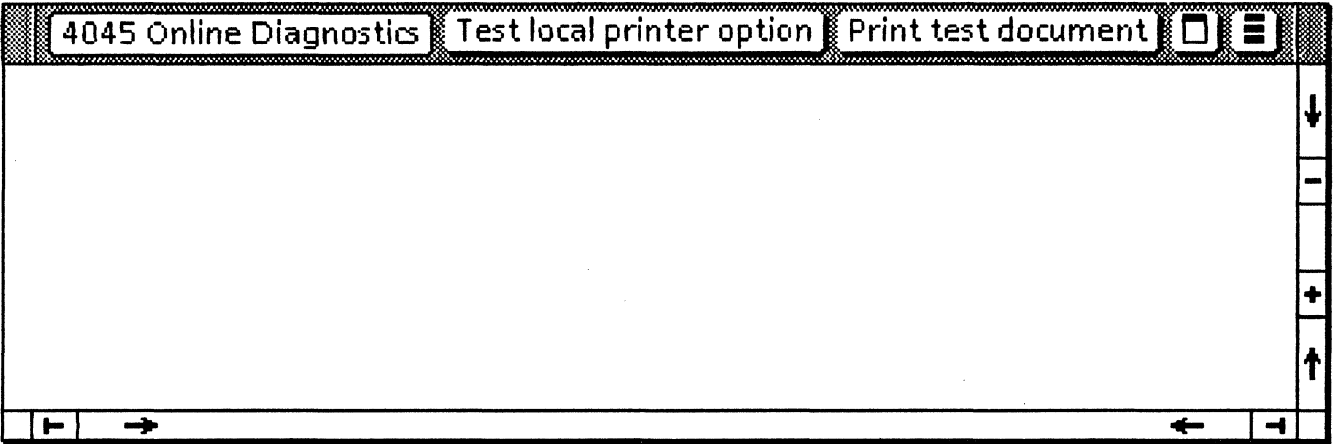

Figure 5-3 4045 Online diagnostics window
3. Select [Test Local Laser Printer Option] in the 4045 Online Diagnostics window (Figure 5-3).